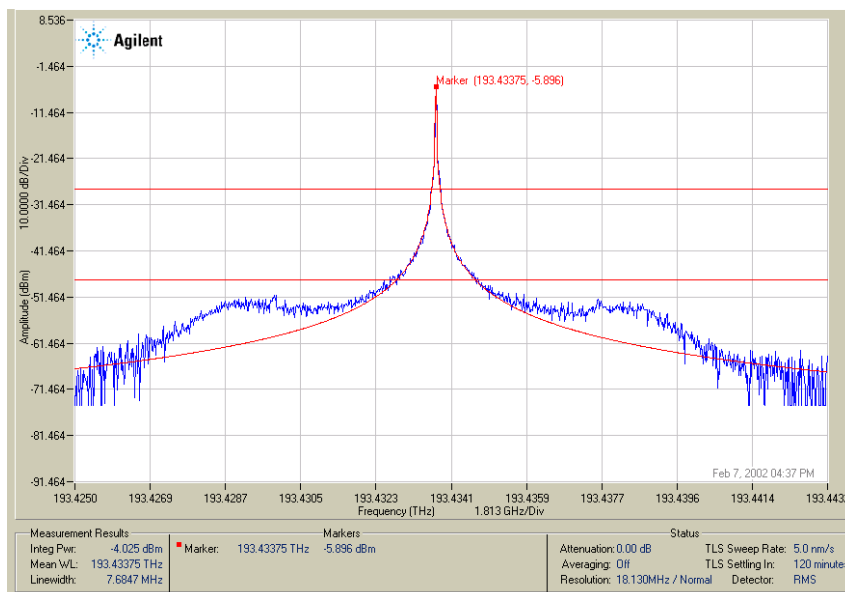

Figure 16 Position lower marker where trace matches lorentzian curve
- 3 Click and drag the lower limit linewidth marker to an amplitude above the point where the Lorentzian curve and trace align. Refer to Figure 16.